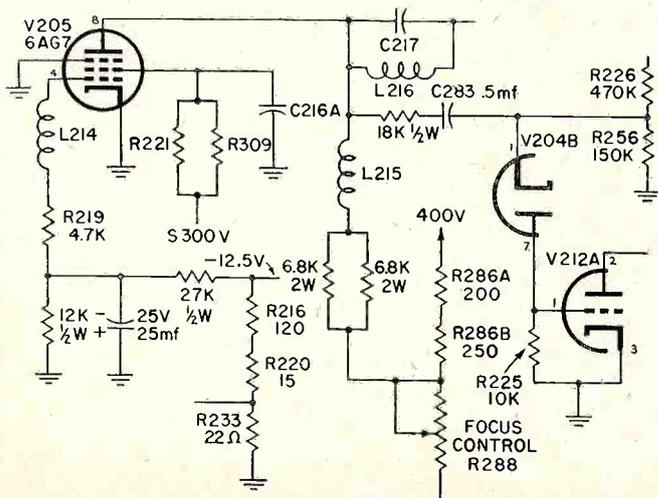

Fig. 2. Vertical sync modifications, DuMont RA-103.
1. Replace V205, the 6AC7 video amplifier, with a type 6AG7 tube as shown in Fig. 2.